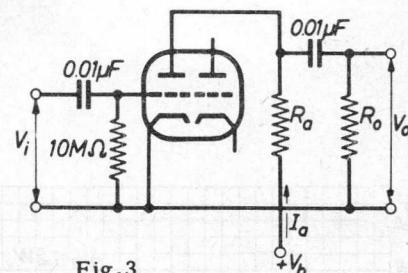

Fig. 3
A.F. amplifier Fig. 3 see page 9 Input source resistance = 330 kΩ